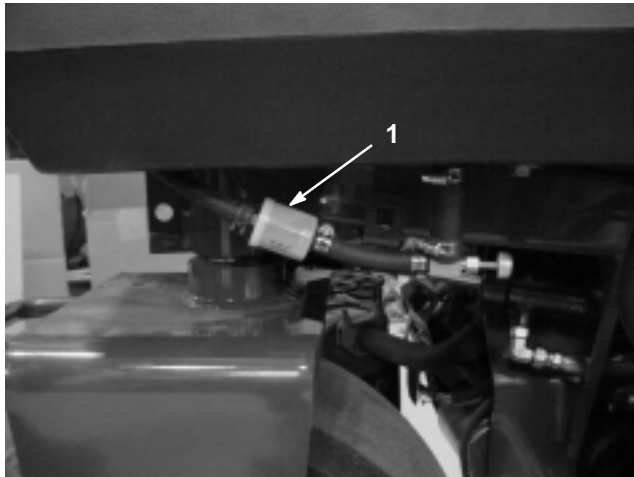

Figure 48
An in-line filter is incorporated into the fuel line between the fuel tank and carburetor (Fig. 48). Replace the filter every 800 hours or sooner if the fuel flow is restricted. Be sure the arrow on the filter is pointing away from the fuel tank.
1. Close the fuel shut off valve, loosen the hose clamp (Fig. 48) on the carburetor side of filter and remove the fuel line from the filter.
2. Place a drain pan under the filter, loosen the remaining hose clamp, and remove the filter (Fig. 48).